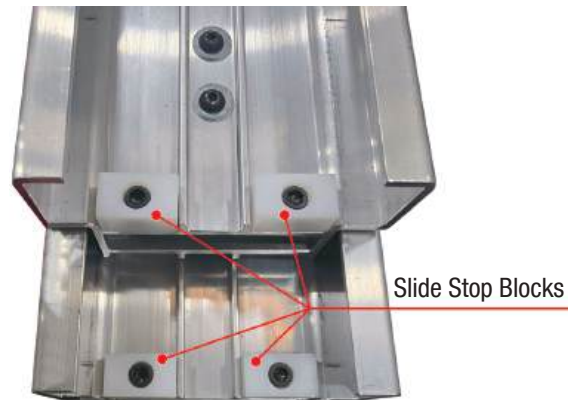

Figure 4-17: Slide Stop Blocks
21. Move the top mast section up to expose the bottom of the mast beneath. Using 3/8" hex wrench and 9/16" wrench, re-install the two slide stop blocks (removed in step 10, see Figure 4-17) to the bottom of the mast assembly beneath. Do not overtighten the bolts and nuts as this may deform the slide stop block and cause unnecessary friction. Torque to 10 ft-lbs.